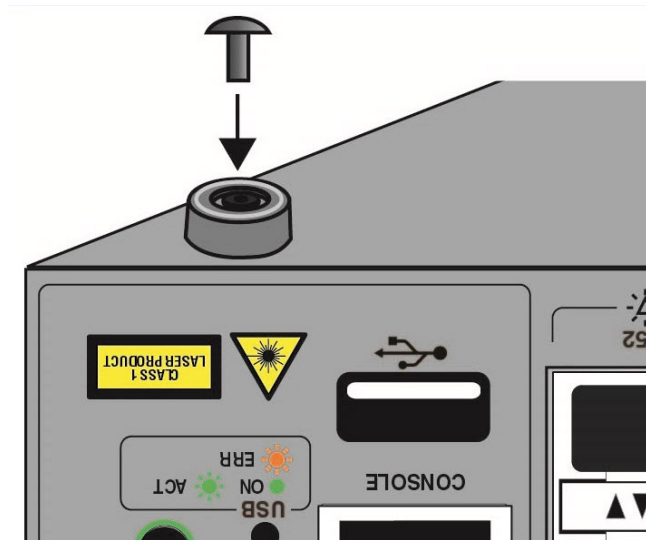

Figure 81. Inserting the Rivet into the Bumper Foot
4. Insert the rivet to secure the bumper foot to the base. Refer to Figure 81.